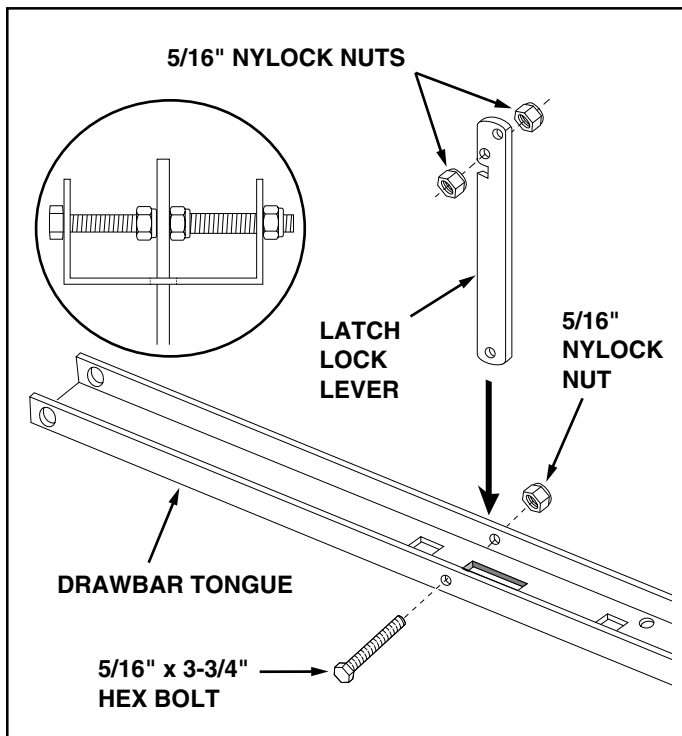

FIGURE 1
3. Place the latch lock lever through the slot in the draw bar tongue as shown in figure 1. Assemble the 5/16" x 3-3/4" hex bolt through the tongue, the lever and two 5/16" nylock nuts (one on each side of the lever). Assemble a 5/16" nylock nut onto the end of the bolt and **tighten** so that the bolt can still rotate freely. **Tighten** the two 5/16" nylock nuts against the sides of the latch lock lever so that the lever is centered in the slot. See figure 1.